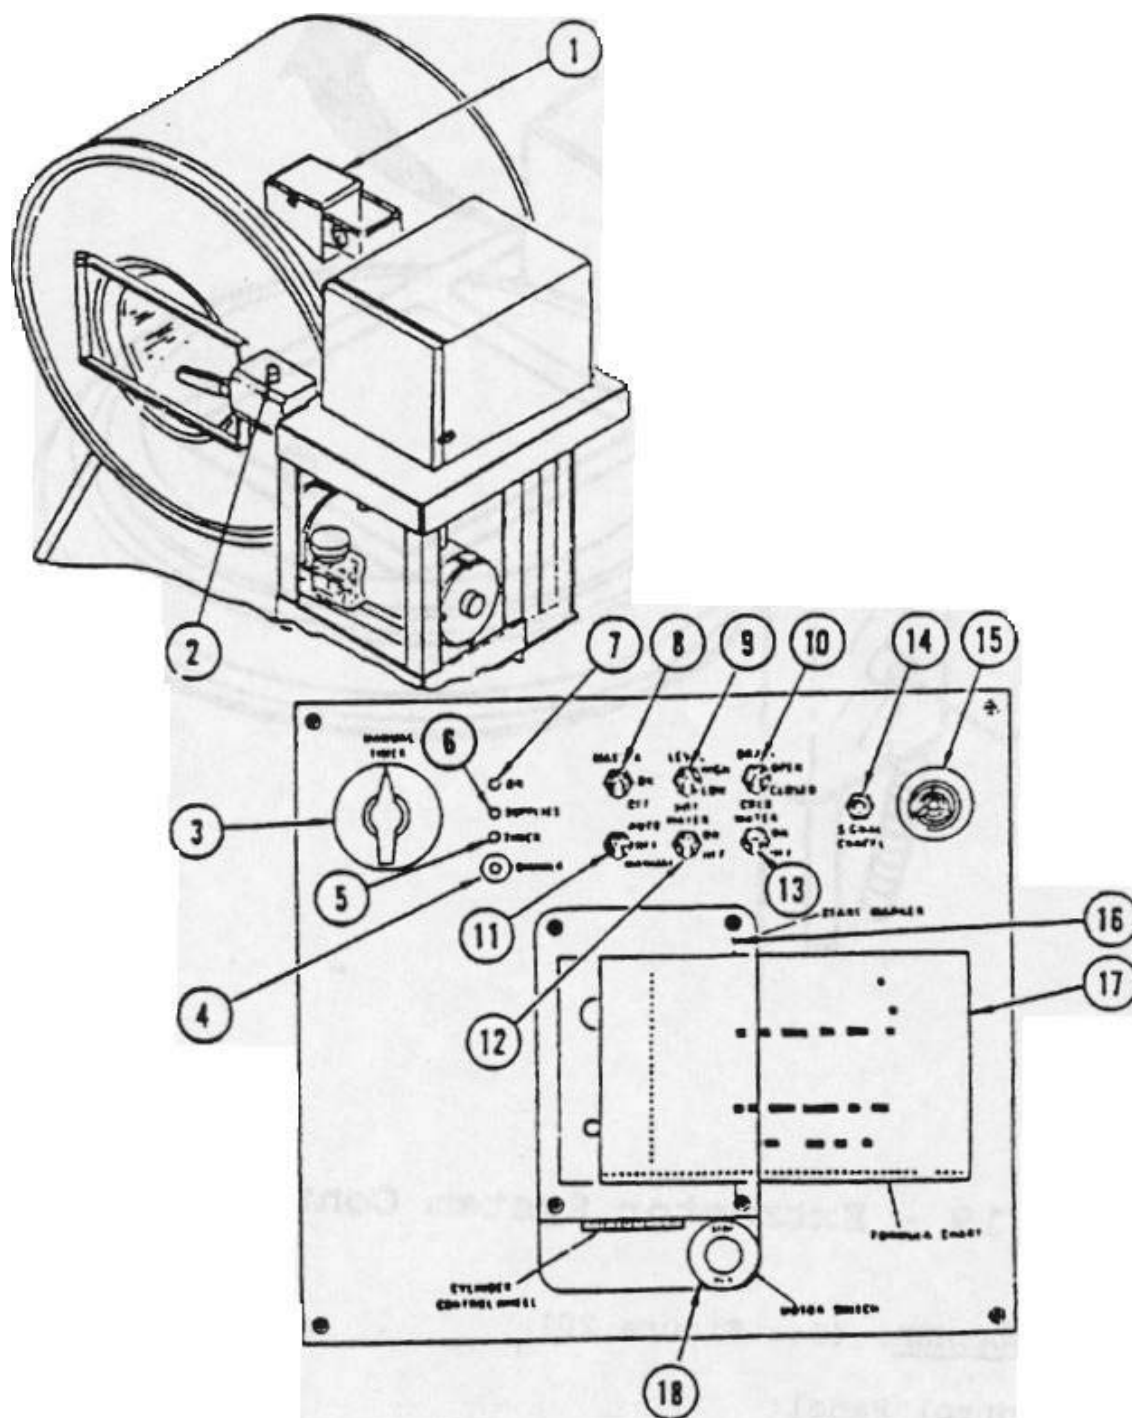

Figure 3-29
- a. Assure emergency STOP button is pulled up (2).
- b. Inspect timer glass for damage (4).
- d. Inspect reset button box (5) for cracks or damage.
18. Inspect washer (See Figure 3-29).